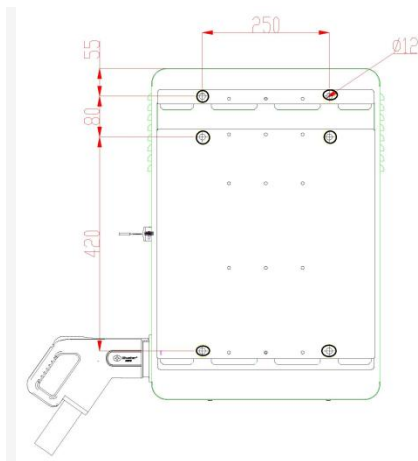

Figure 3.1.1-1 Hole bitmap of wall pendant
Step 1: pre-drill 6pcs M7 or M8 holes in the wall surface according to the hole bitmap of the wall pendant as shown in Fig. 3.1.1 -1.
The second step: The wall hanging with 6pcs M8X100 expansion bolt fixed in the wall. As shown in figure 3.1.1-2.
Third Step: after the wall-hanging parts are fixed, the charging pile is hung on the wall-hanging parts. Open the pile door and secure it with a burglar-proof combination screw (M 4 * 12) at the position shown in figure 3.1.1-3 below.